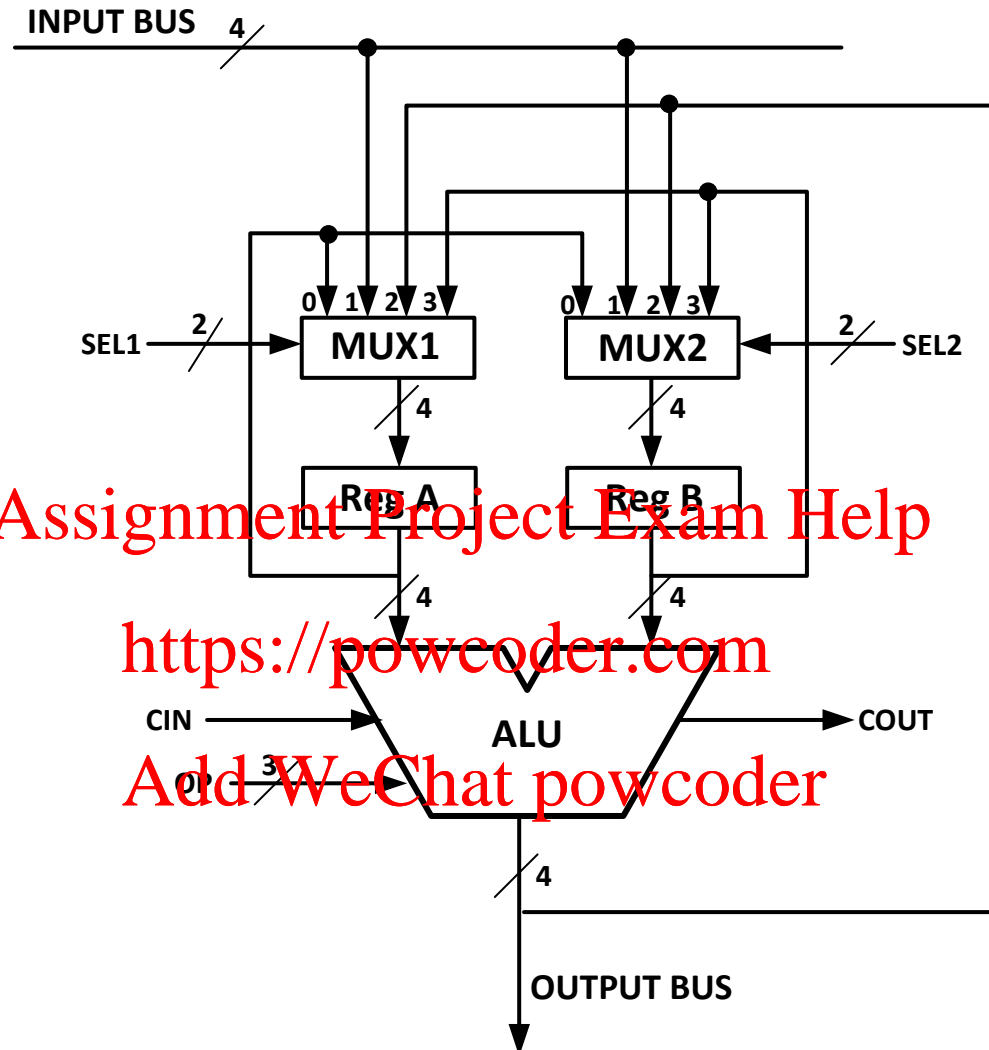

Figure 2: G-CPU Datapath
1. Provide the VHDL implementation of the data path design. Analyze Figure 2 carefully and complete the given template of *GCPU_Datapath.vhd*.